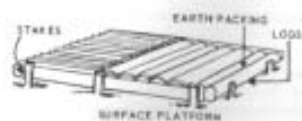

Figure 34. Examples of platform landing zones for rotary-wing aircraft.
(1) The surface should be relatively level and free of obstructions such as rocks, logs, tall grass, ditches, and fences.
(2) The maximum ground slope permitted is 15 percent.
(3) The ground must be firm enough to support the aircraft.
(4) Heavy dust or debris interferes with the vision of the pilot just before touchdown. This effect can be reduced by clearing, wetting down, or using improved mats.
(5) Landing pads may be prepared on swamp or marsh areas by building platforms of locally available materials, (figure 34). Such LZ's are normally used for daylight operations only. The size of the clearing for this type of LZ is the same as b above with the following additional requirements for the platform: